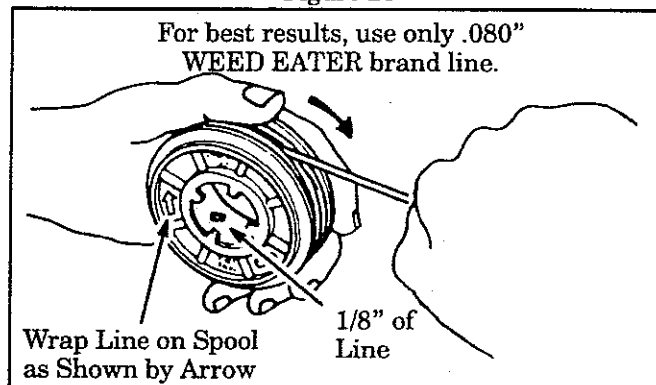

Figure 24
- Insert 1/16" to 1/8" of the end of the line through the hole in the spool. Figure 24 . Allow no more than 1/8" line to extend inside the spool.
- Wrap the line onto the spool firmly and evenly in the direction shown by the arrow on the spool. Figure 24 .